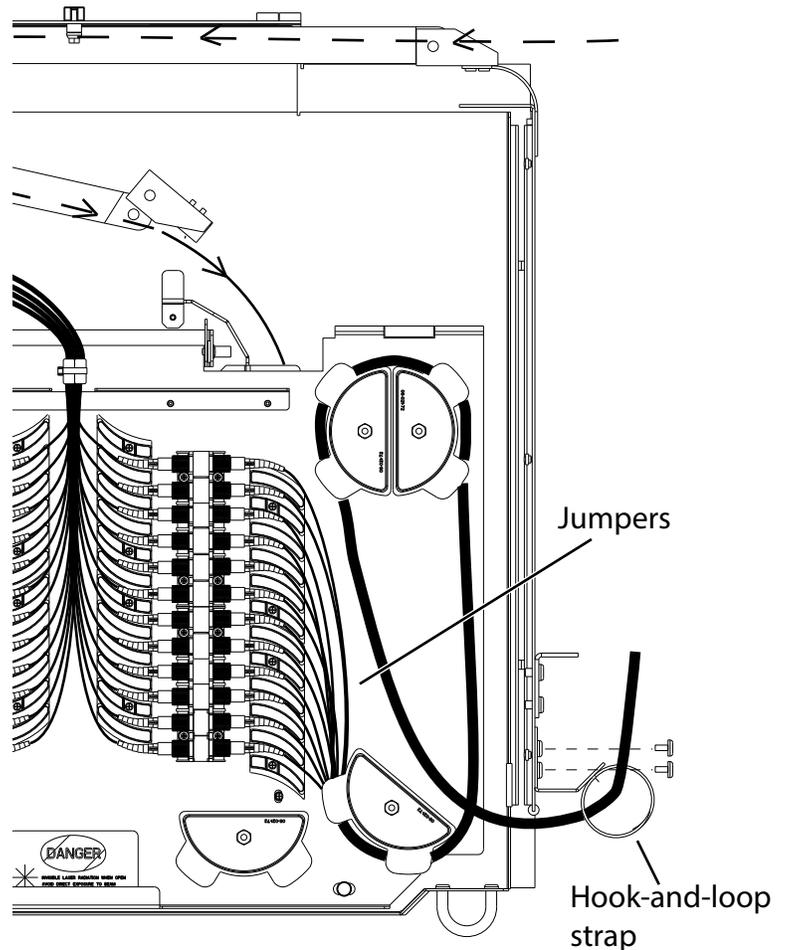

Figure 12
- Step 1:** Remove dust covers and install connectors into the connector adapters as shown in Figure 12.
- Step 2:** Open jumper slack storage cover by pulling up on the plunger (see Figure 10). Route jumpers around routing guides on the shelf assembly as shown in Figure 12.